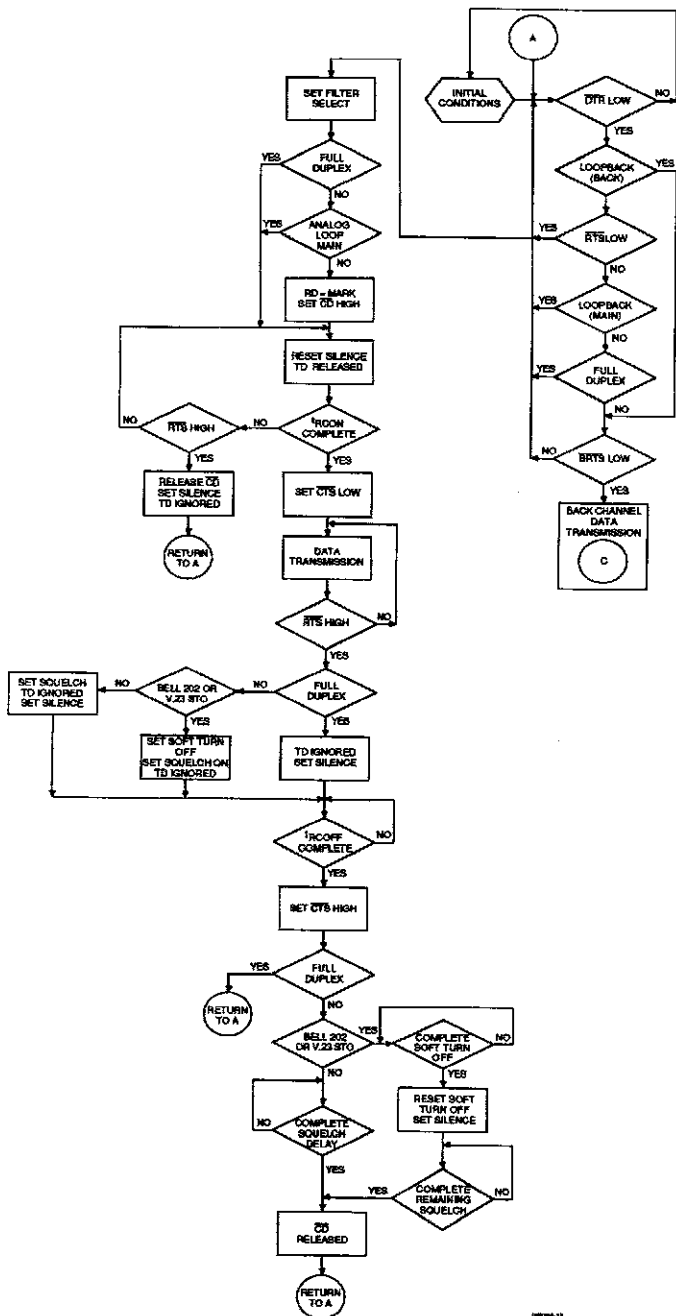
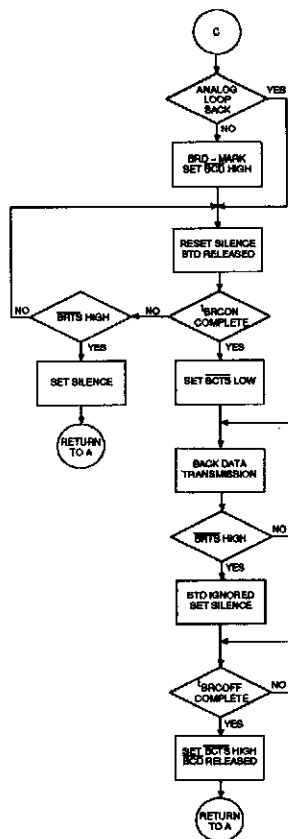

Figure 8a. Transmit Main Channel State Diagram
Figure 8b. Transmit Back Channel State Diagram
To Fig. 8a or 9
Following call establishment, full-duplex data transmission can be started by either the called or calling modem. If the connection has been established and the modem is looping through point A in Figure 8a, it no longer matters which is the called and which is the calling modem. Data transmission is initiated by setting REQUEST TO SEND (RTS) LOW. At this time the TRANSMITTED DATA (TD) input will be released and a modulated carrier can appear at the TRANSMITTED CARRIER (TC) output. Following a delay, t_{RCON} , CLEAR TO SEND (CTS) changes to LOW. At this time, data may be transmitted through TD. It is common protocol for the user to always present a Mark at TD before RTS is asserted and during the t_{RCON} delay.
Data transmission continues until RTS is set HIGH. Following a short delay, t_{ROFF} , CTS changes to HIGH. As soon as RTS goes HIGH, TD is ignored and TC is set to 0.0 Volts (silence). After CTS changes to HIGH, the state machine returns to point A in Figure 8a.
When a half-duplex mode is selected (202 or V.23), data transmission can be either on the main channel at 1200/600 bps or on the back channel at 5/75/150 bps. In normal half-duplex operation a single modem is either transmitting on the main and receiving on the back channel or vice-versa. In the Am79101, control of the transmitter and receiver filters to the proper channel is performed by RTS. When RTS is asserted, the transmitter filters and synthesizer are set to transmit on the main channel; the receiver filters are set to receive on the back channel. Therefore, whenever RTS is LOW, BRTS should not be asserted since the transmitter cannot be used for the back channel. When RTS is HIGH and a half-duplex mode is selected, the transmitter filters and synthesizer are set to the back channel; the receiver filters are set to the main channel. If RTS and BRTS are asserted simultaneously, RTS will take precedence. However, if BRTS is asserted before RTS and the back channel data transmission sequence has been entered (Figure 8b), RTS will be ignored until BRTS is set HIGH.
The state machine sequences for main and back channel transmission differ slightly and are depicted in Figures 8a and 8b. Assume the state machine is idling through point A in Figure 8a.
This transmission sequence is entered if a 202 or V.23 mode is selected and RTS is asserted. Since the receiver is now forced to the back channel the RECEIVED DATA (RD) signal is clamped to a Mark, and the CARRIER DETECT (CD) signal is clamped HIGH. The TRANSMITTED DATA (TD) input is released and a carrier appears at the TRANSMITTED CARRIER (TC) output which follows the Mark/Space applied to TD. RTS going LOW initiates a delay, t_{RCON} , at the end of which the CLEAR TO SEND (CTS) output goes LOW. When CTS goes LOW, data may be transmitted through TD. Data transmission continues until RTS is set HIGH. At this time several events are initiated. First a delay, t_{RCOFF} , is initiated at the end of which CTS goes HIGH. TD is ignored as soon as RTS goes HIGH. If a 202 mode or V.23 soft turn-off mode is selected, a soft turn-off tone appears at TC for a time, t_{STO} , followed by silence (0.0 Volts). For both 202 and V.23 modes, a squelch period, t_{SQ} , is initiated when RTS goes HIGH. During this period the CD output is clamped HIGH, forcing the RD output to a Mark condition. The squelch period begins as soon as RTS goes HIGH and thus overlaps both t_{RCOFF} and t_{STO} . At the end of the squelch period, the state machine returns to the idle loop at point A in Figure 8a.
This transmission sequence, shown in Figure 8b, is entered if a 202 or V.23 mode is selected, RTS is HIGH, and BRTS is asserted. The BACK CARRIER DETECT (BCD) output is forced HIGH and the BACK RECEIVED DATA (BRD) output is clamped to a Mark. The BACK TRANSMITTED DATA (BTD) input is released and a carrier appears at the TC output which follows the Mark/Space applied to BTD. Setting BRTS LOW initiates a delay, t_{BRCON} , at the end of which the BACK CLEAR TO SEND (BCTS) output goes LOW. When BCTS goes LOW data may be transmitted through BTD. Data transmission continues until BRTS is set HIGH. BTD is immediately ignored and TC is silenced (set to 0.0 Volts). Following a short delay, t_{BRCOFF} , BCTS goes HIGH. The signals BCD and BRD are released and the state machine returns to idle at point A of Figure 8a. In 202 5 bps back channel mode, BTD